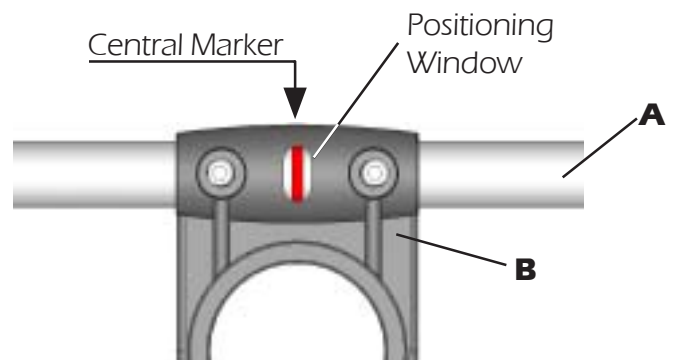

Fig. 3
2) Place the reference marker of the aluminium element **A** in the centre of the plastic support **B** (see **fig. 3**) and lock the screws **C** by the supplied key **D** (**fig. 4**). When the screws touch the aluminium tubes you can finally lock them turning for 1.5 turns.